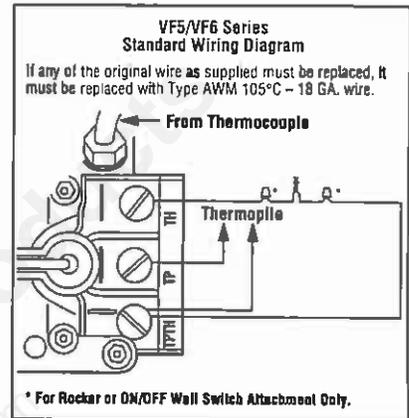
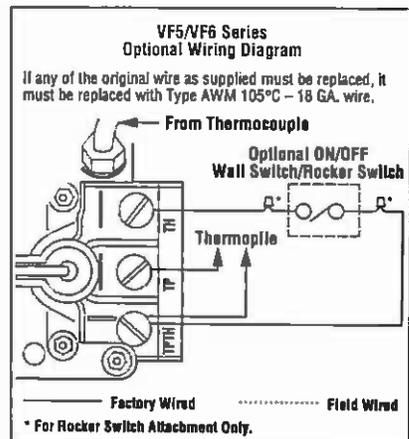

Figure 14
Figure 15
Step 6. Installing the Optional Remote Wall Switch – The standard millivolt system comes from the factory wired as shown in Figure 14. Select a convenient location for the remote wall switch and connect the wiring to the appliance (Figure 15).
An optional wall switch kit can be installed along with all vent-free appliances. The kit consists of a standard UL wall switch with cover plate. This kit provides for remote (wall) operation of the appliance. Replace the wall switch and cover plate of this kit with the components of the RCK and you can have true remote control of your vent-free appliance, turning it on and off from your favorite easy chair. The wall switch kit should be installed along with the appliance. Refer to *Figure 15* and Step 6 for detailed installation instructions.